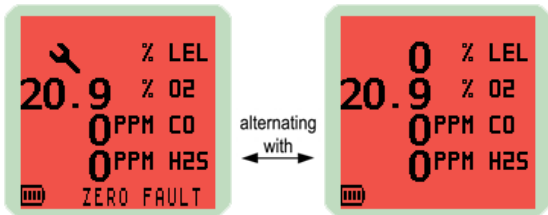

Fig. 4-9 Check Fault
2) If a “ZERO FAULT” warning and a flashing spanner symbol appear, alternating with a zero LEL reading as illustrated in Fig. 4-9, apply test gas for two minutes to allow the display to return to zero then switch instrument OFF and ON again. If fault remains, return instrument to a GMI approved Service / Repair facility.